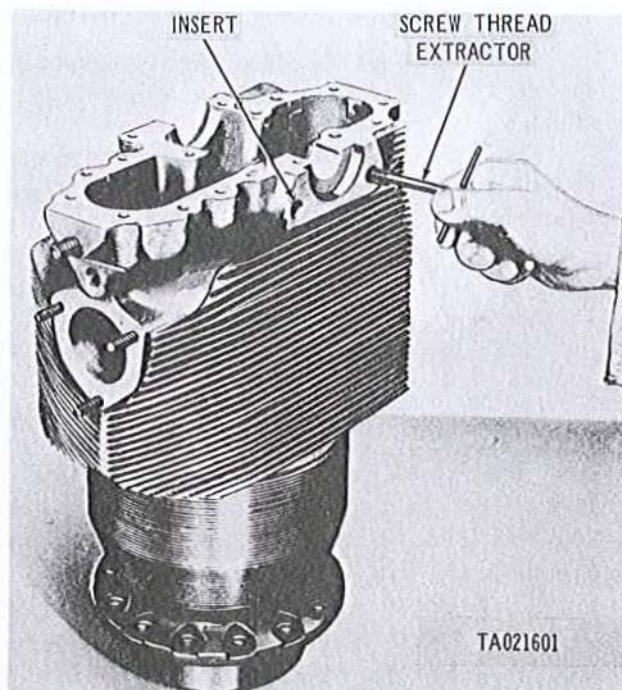

Figure 3-142. Removing helical-coil threaded insert from cylinder assembly using screw thread extractor.
(1) Use a diamond-shaped punch to remove the staked, serrated-tooth type section of insert (fig. 3-142) from the thread in cylinder casting.
(2) Install screw thread extractor — Part No.